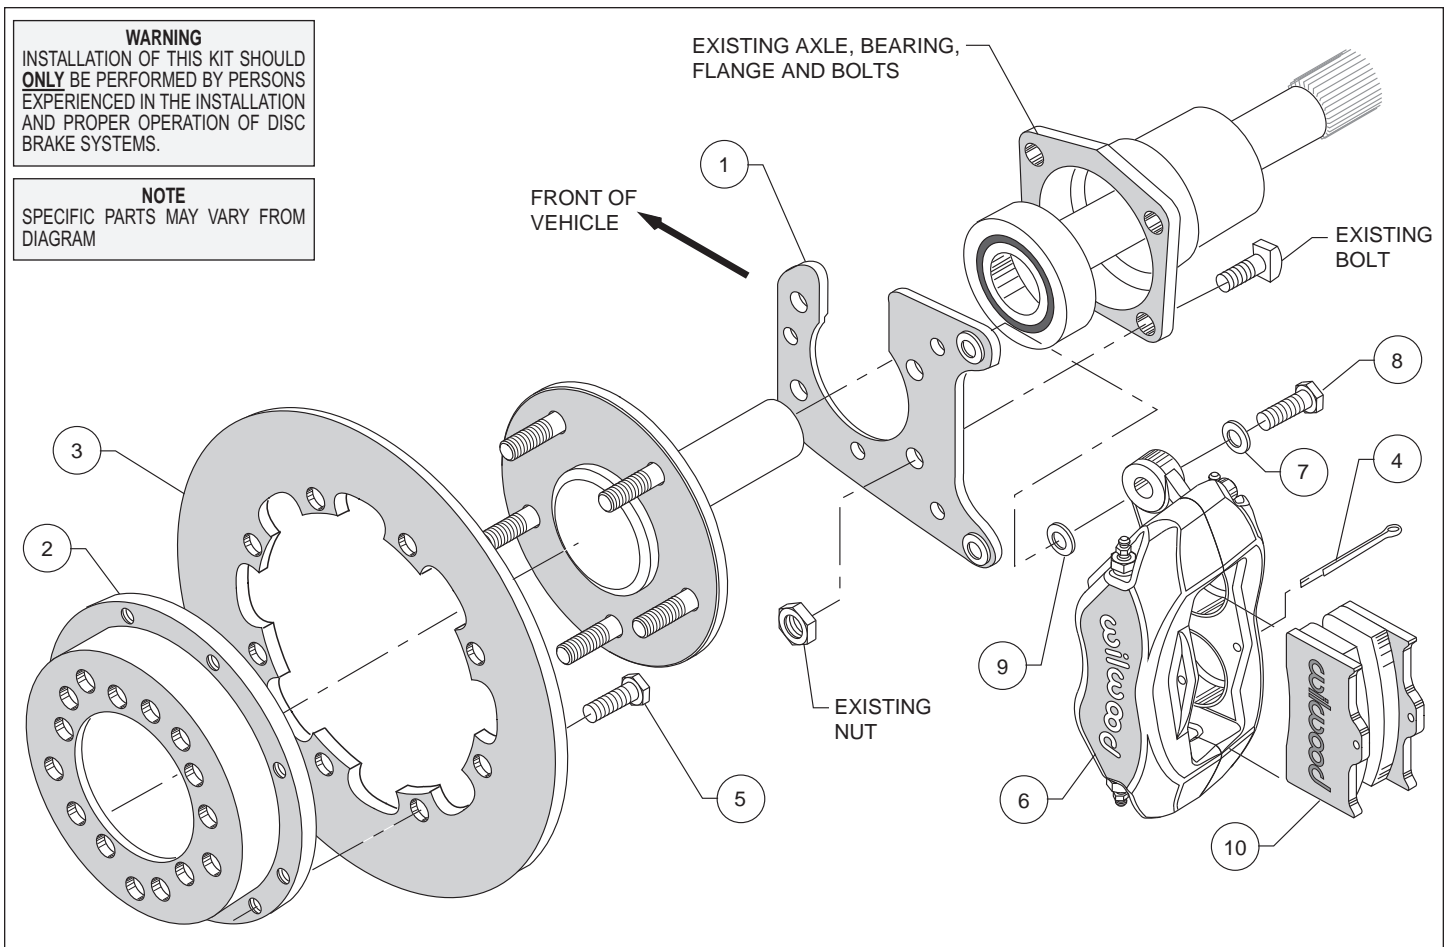
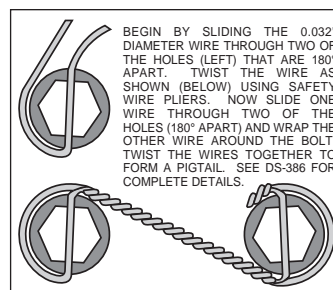
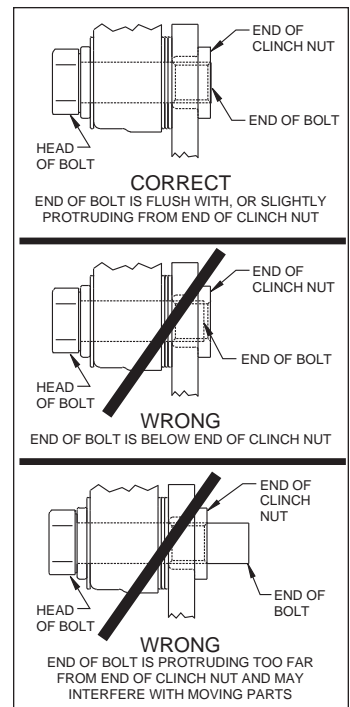

Figure 1. Typical Installation Configuration
Figure 4. Safety Wire Diagram
Figure 5. Clinch Nut Engagement Diagram
Assembly Instructions (numbers in parenthesis refer to the parts list, and Figure 1 on the preceding pages): **CAUTION:** All mounting bolts must fully engage clinch nuts. Be sure to check that all bolts are either flush or protruding through flanged side of clinch nut after shimming, Figure 5.
- Orient the caliper mount bracket (1) with the slot for the axle pointing upward, as shown in Figure 1 and Photo 1. Install using existing Original Equipment Manufacturer (OEM) bolts and washers. Temporarily tighten the mounting bolts. Ensure that the flanged heads of the clinch nuts in the bracket are facing outboard, Photo 1. **NOTE:** The bracket must fit squarely against the axle housing flange. Inspect for interference from casting irregularities, machining ridges, burrs, etc. Remove bolts one at a time, apply red *Loctite*® 271 to threads and torque nuts to manufacturer's specifications.
- Orient the rotor (3) and the hat (2) as shown in Figure 1 and Photo 2. Attach rotor to hat using bolts (5). Using an alternating sequence, apply red *Loctite*® 271 to the threads, and torque to 25 ft-lb. For an added measure of security, the bolts may be safety wired using standard 0.032 inch diameter stainless steel safety wire as shown in Figure 4. Refer to Wilwood's data sheet DS-386 (available at www.wilwood.com/Pdf/DataSheets/ds386.pdf) for complete safety wire installation instructions.
- Align the correct hole pattern in the rotor/hat with the stud pattern on the axle flange and slide into place, Figure 1 and Photo 3. **NOTE:** The rotor/hat must fit flush against the axle flange or excessive rotor run out may result. Install three lug nuts (finger tight) to keep the rotor/hat assembly in place while continuing with the installation. **NOTE:** Some OEM and after market axles come with stud sizes larger than 0.50" diameter. Verify stud size and have a qualified machine shop drill the bolt circle of the hat/rotor to the correct stud size, if necessary.
- **NOTE:** Please reference the caution statement at the beginning of the assembly instructions. Mount the caliper (6) onto the caliper mounting bracket (1) using bolts (8) and washers (7), as shown in Figure 1. Initially place one .032" thick shim (9) on each bolt between the caliper and the bracket, Photo 4. Temporarily tighten the mounting bolts and view the rotor (3) through the top opening of the caliper. The rotor should be centered in the caliper, Photo 5. If not, adjust by adding or subtracting shims between the bracket and the caliper. Always use the same amount of shims on each of the two mounting bolts. **NOTE:** The end of each bolt must be flush with or slightly protruding from the head of the clinch nut, as shown in Figure 5. If necessary place spare shims between washer (7) and caliper mounting ear to achieve the proper clinch nut engagement. Once the caliper alignment and clinch nut engagement are correct, remove the bolts one at a time, apply red *Loctite*® 271 to bolt threads, and torque to 40 ft-lb.
- Install the disc brake pads (10) into the caliper, with the friction material facing the rotor (3), Photo (6) and secure in place using cotter pin (4), Photo 7.